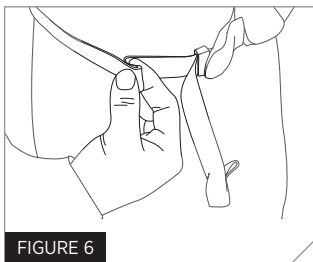

FIGURE 6
- Check fit by pinching each side strap, just as you would a waistband. If you can pinch the material together (Fig. 6), tighten your PFD.